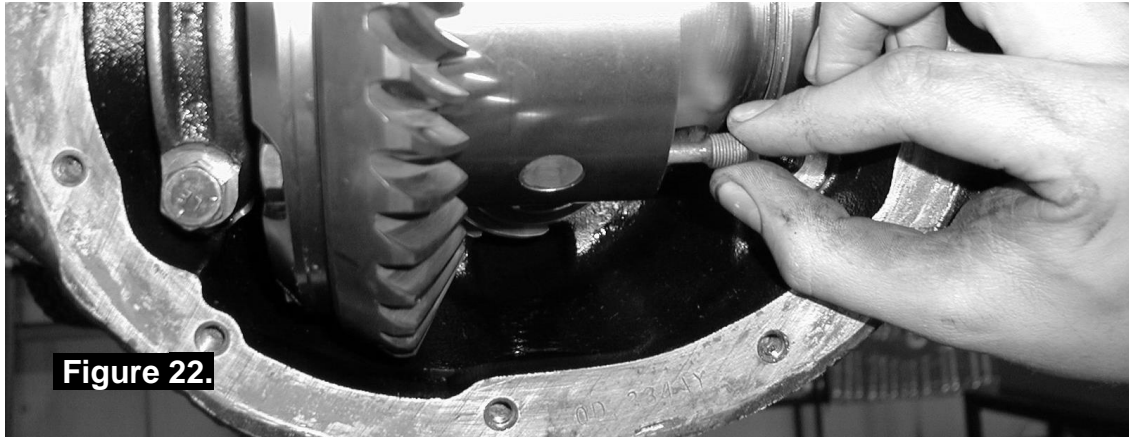

Figure 22.
- Unscrew and remove the long cross shaft retaining pin using a 5mm hex key (Figure 22.).